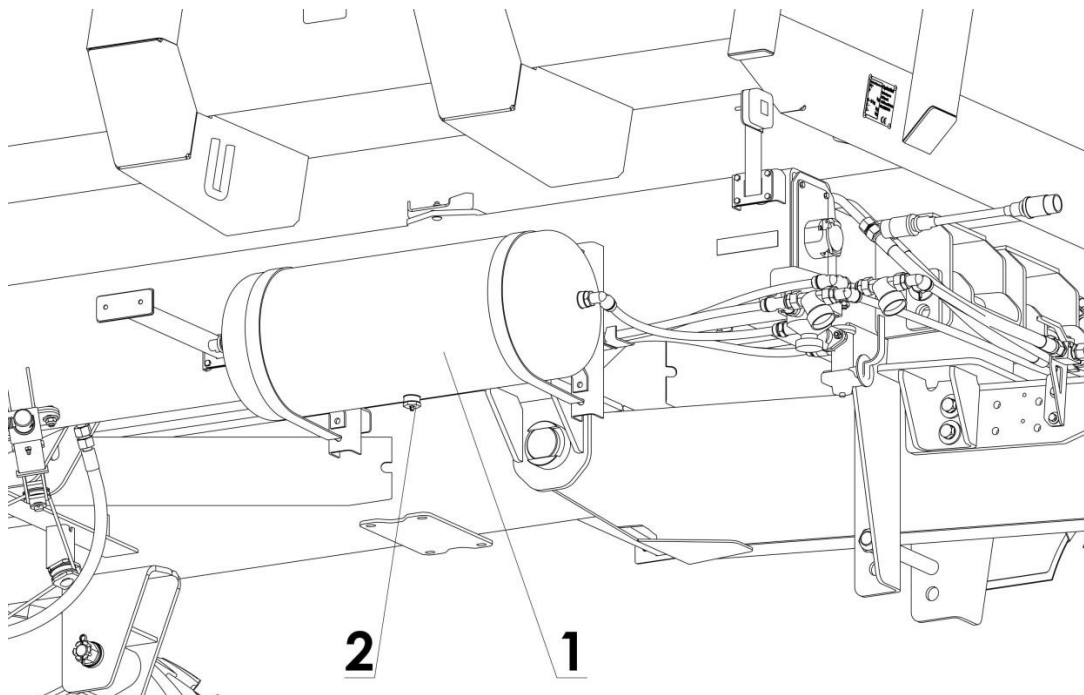

Figure 23. Draining the air tank
Periodically, remove the condensate gathering in the water from the air tank. For this purpose, pull the mandrel of the drain valve (2) at the bottom of the tank (1) to the side (fig. 23). The compressed air in the tank will push the water out. After releasing the mandrel, the valve should automatically close and stop the airflow from the tank.